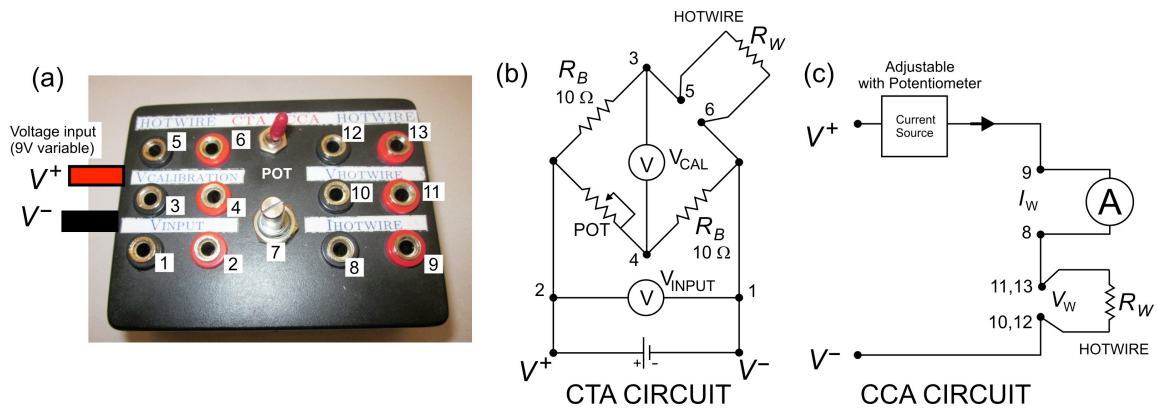
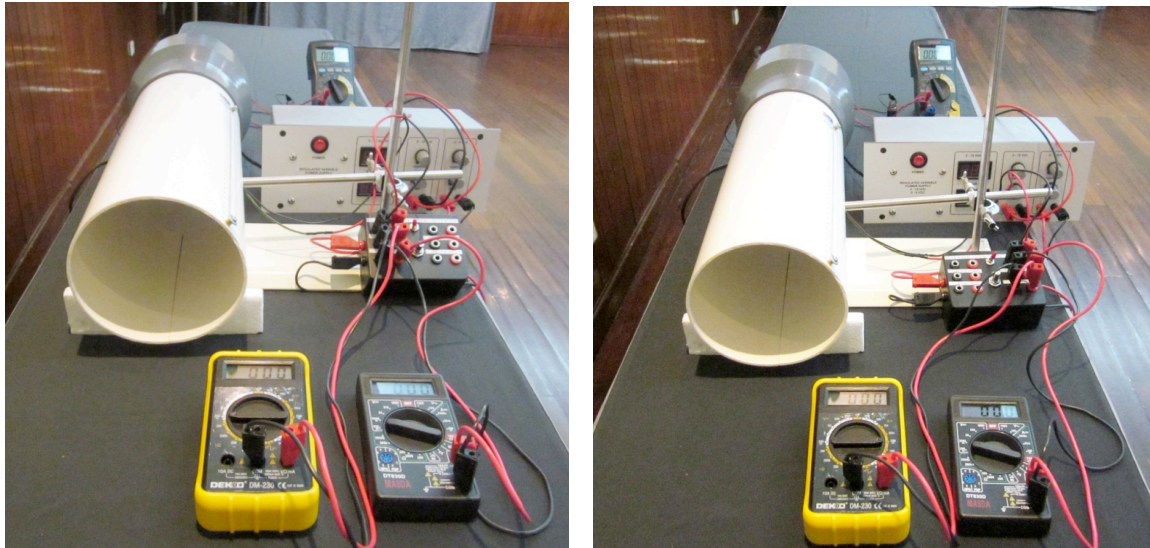

Figure 9. (a) Hotwire electronic box (b) Constant Temperature Anemometer (CTA) circuit (c) Constant Current Anemometer circuit (CCA).
Figure 10. (a) Constant temperature anemometer (CTA) setup on the left. (b) Constant current anemometer (CCA) setup on the right.
The two experiments require some electronic circuit to perform which we provide in an electronic box, see Figure 9 below. To perform each of the experiment, you will only need one side of the circuit. There is a **small switch on the top of the box** to toggle between the two, labeled as CTA (Constant Temperature Anemometer) and CCA (Constant Current Anemometer).
The constant temperature method is performed by keeping the temperature of the hotwire (and thus its resistance) constant for different wind speed. To achieve this we use Wheatstone bridge with a variable (POT) resistor across the hotwire to balance the bridge as shown in Figure 9(b).
- (b) Connect the wires and jacks according to Figure 9(b) and Figure 10(a). Use the 9V variable voltage source from the power supply for the hotwire electronic box.
- (b) Connect the wires and jacks according to Figure 9(c) and Figure 10(b). **Carefully inspect that they are correct and** make sure **all the knobs on the power supply are turned all the way down (left)** before you turn it on.